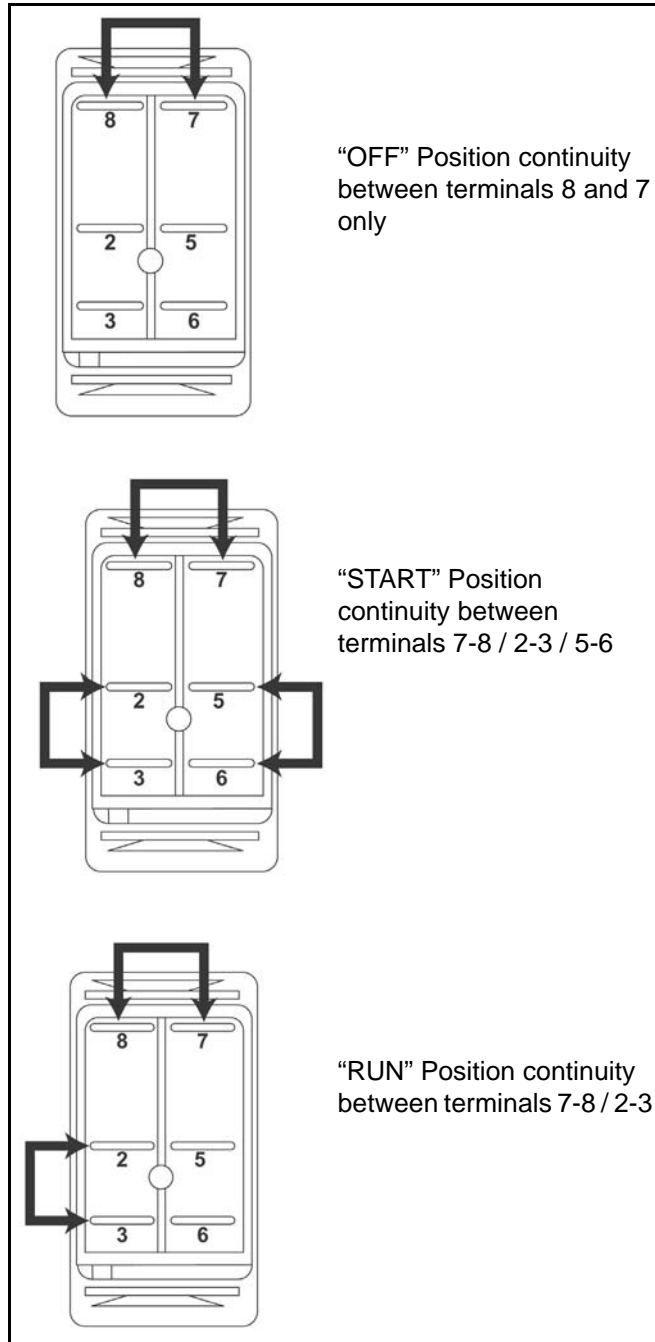
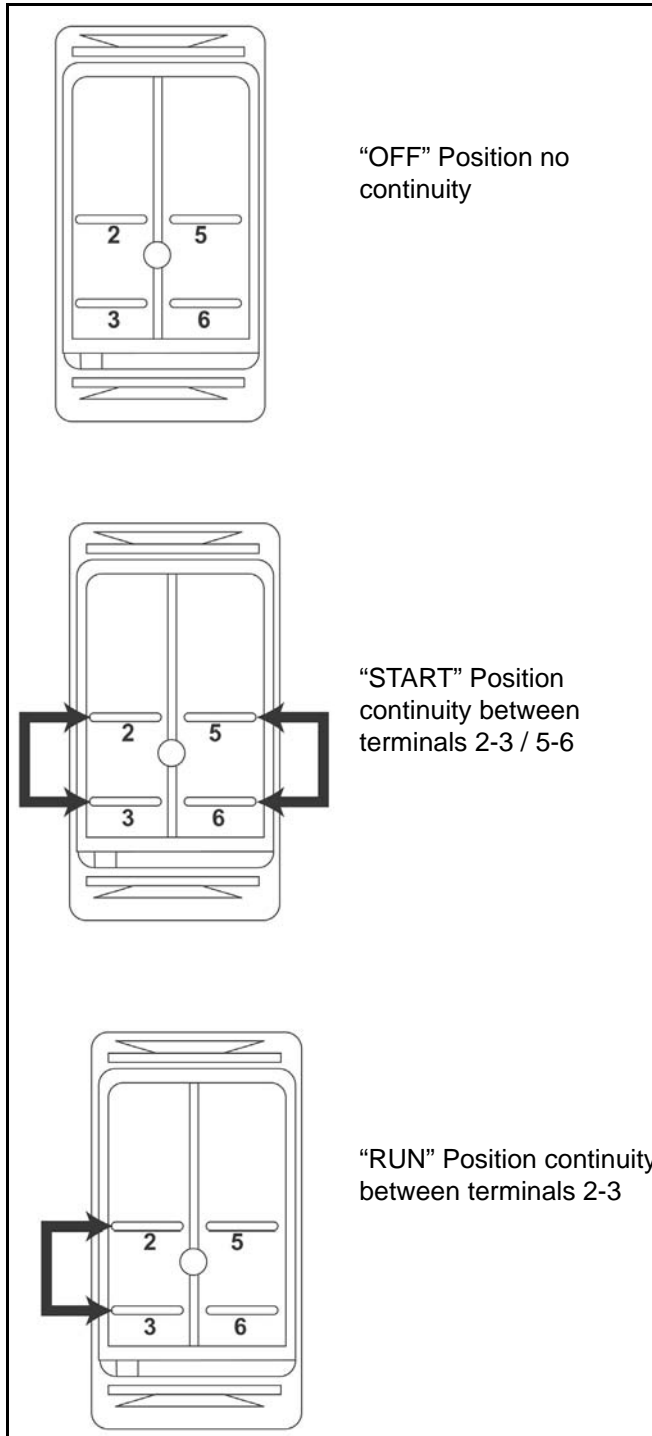

Figure 24
Figure 25
2. Using a VOM or test lamp, test the continuity of the terminals using the following diagrams (Figure 24 and Figure 25).